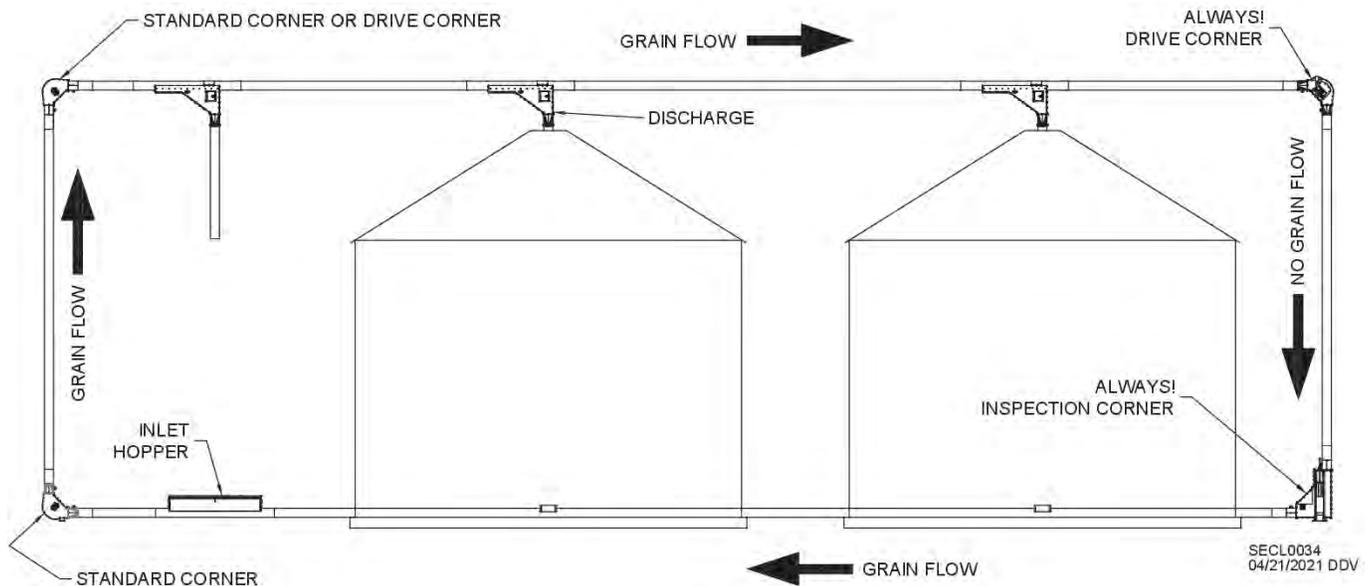

Fig. 16 – Grain flow and corner identification
- Grain flow direction (See Fig. 16)